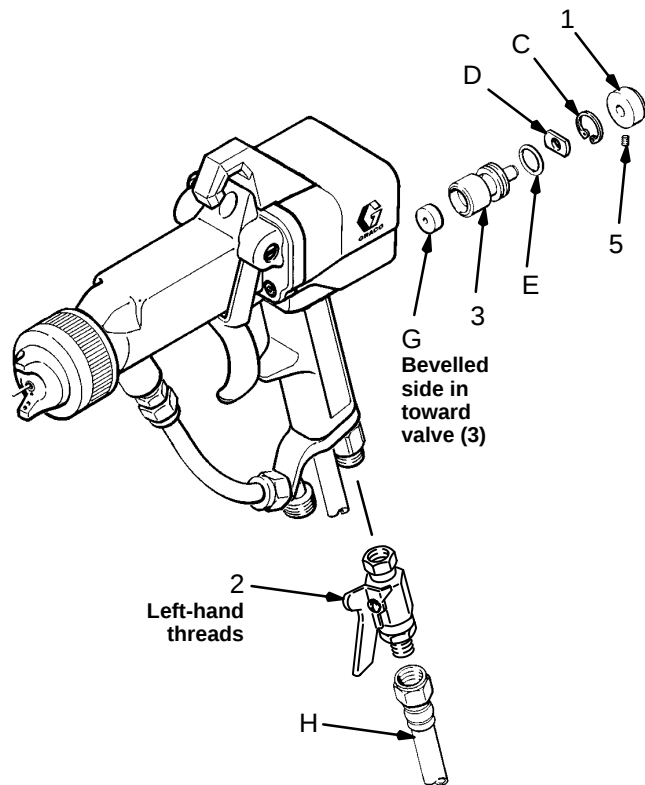

Fig 2
1. Turn off the electrostatics by closing the ball valve (2) included with the kit. See Fig 2.
- Lubricate the o-ring (E) with petroleum jelly. Install the new valve (3) with the regulator disc (G) and o-ring (E) into the gun handle. Install the spacer (D) on the valve.
- Install the retaining ring (C) into the groove in the handle. Install the cap (1) supplied with the kit and tighten the new set screw (5).
- Install the ball valve (2) supplied with the kit as shown in Fig 2.
- Connect the Graco Electrically Conductive Air Supply Hose (H) to the ball valve (2).